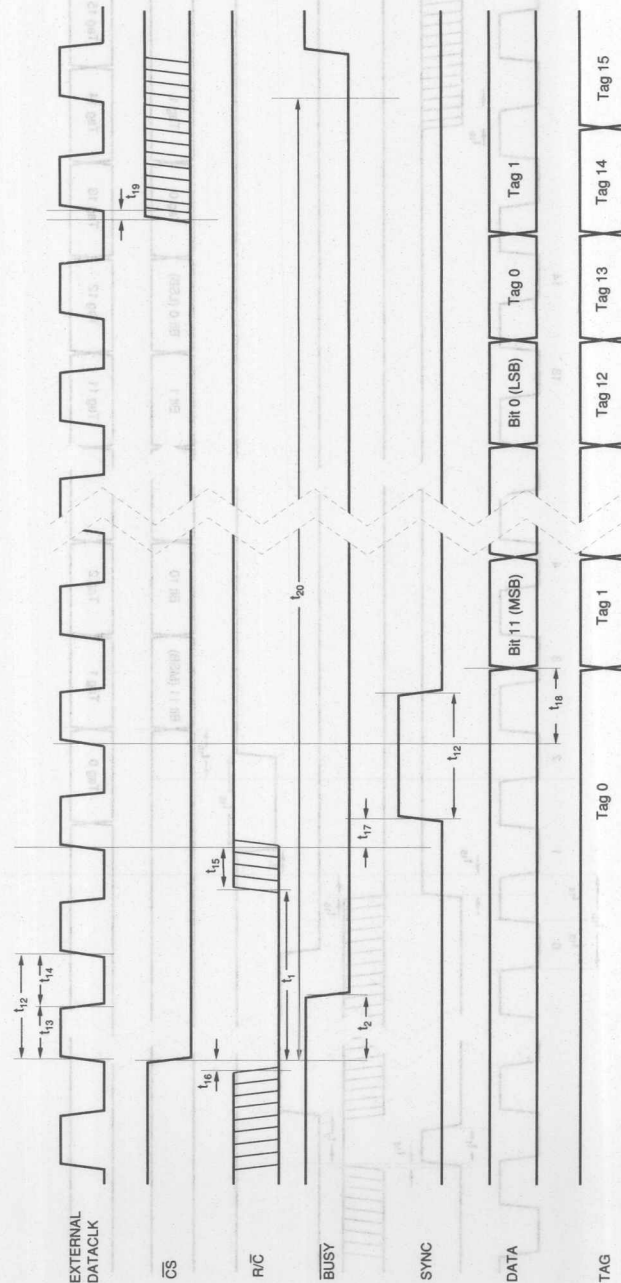

FIGURE 3b. Conversion and Read Timing with External Clock. (EXT/INT Tied HIGH.) Read During Conversion (Previous Conversion Results).
NOTE: (1) See Figure 3b for constraints on previous data valid during conversion.